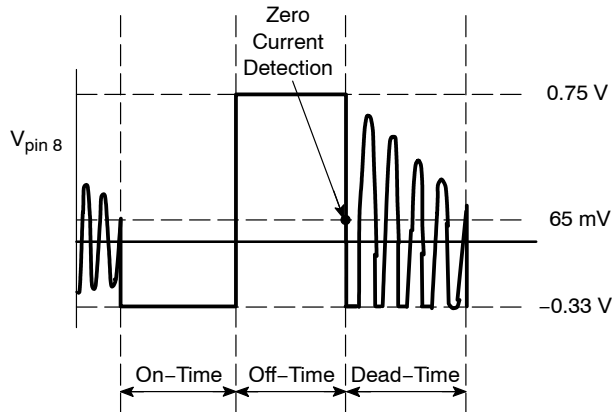
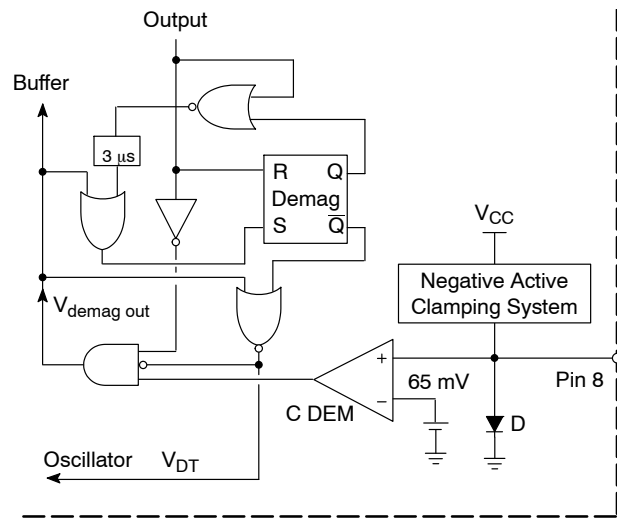

Figure 7. Demagnetization Detection
Figure 8. Demagnetization Block
- equal to zero for the dead-time with generally a ringing (refer to Figure 7).
A latch system is incorporated to keep the demagnetization block output low as soon as a voltage lower than 65 mV is detected and as long as a new restart is produced (high level on the output (refer to Figure 8)). This process avoids that any ringing on the signal used on the pin 8, disrupts the demagnetization detection (refer to Figure 7). Finally, this method results in a very accurate demagnetization phase detection, and the signal  $V_{DT}$  drawn from this block is high only for the dead time. Therefore, an oscillator re-start and so, a new power switch conduction is only allowed during the dead-time.
The demagnetization detection can be inhibited by connecting pin 8 to the ground but in this case, a timer (about  $3 \mu s$ ) that is incorporated to set the latch when it can not be set by  $V_{demagout}$ , results in a minimum off-time (refer to Figure 8).